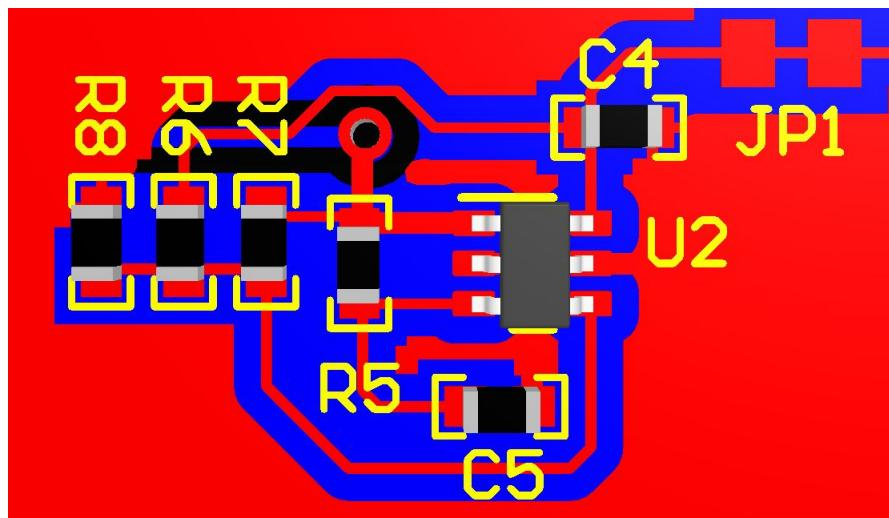

图 73. Oscillator Circuit Layout Example
- To minimize supply noise, place a decoupling capacitor (0.1- $\mu\text{F}$  ceramic, surface-mount capacitor) as close as possible to  $V_S$  as shown in 图 73.